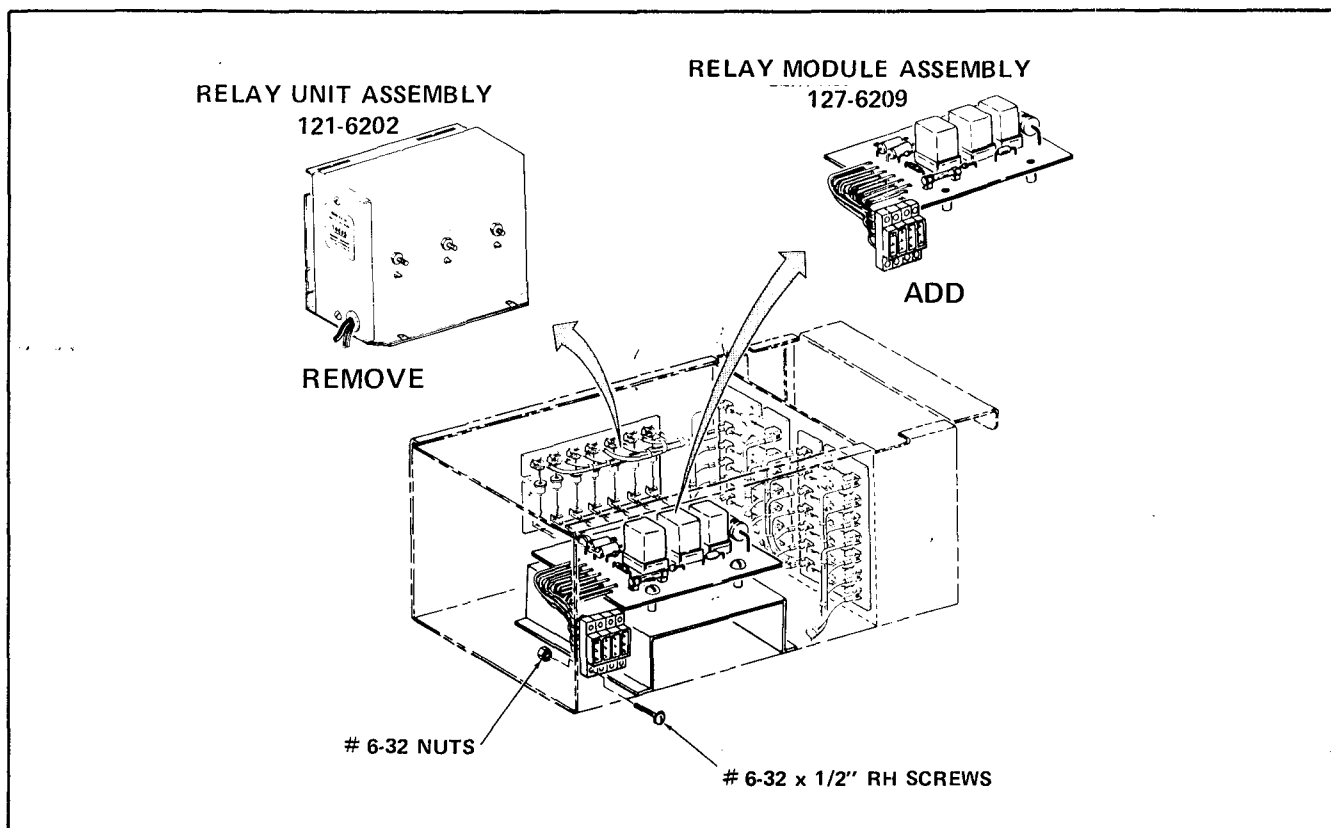

FIGURE 5
1. Remove the Connector from the Relay Unit Circuit Board Assembly. See Figure 5.
3. Remove the three No.8-32 Nuts with Lockwashers which attach the Relay Unit Assembly to the Control Box. See Figure 5.
1. Screw the three Spacers, part number 127-7204, onto the three Studs in the Relay Cover Assembly. These are the Studs from which the No.8-32 Nuts were removed in step IV-A-3. See Figure 5.